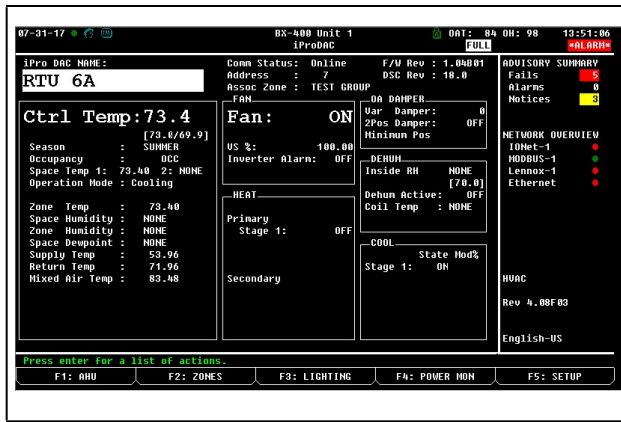

Figure 7-7 - iProDAC Status Screen - Press F5
2. Select **iProDAC** from the list - the iProDAC Status screen will open (Figure 7-7).